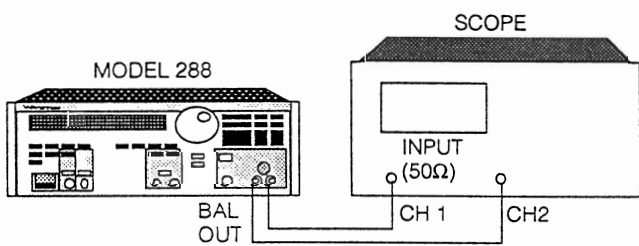

Figure 2-5. Balanced Output Verification
4. Connect the Model 288 and test equipment as shown in figure 2-5.